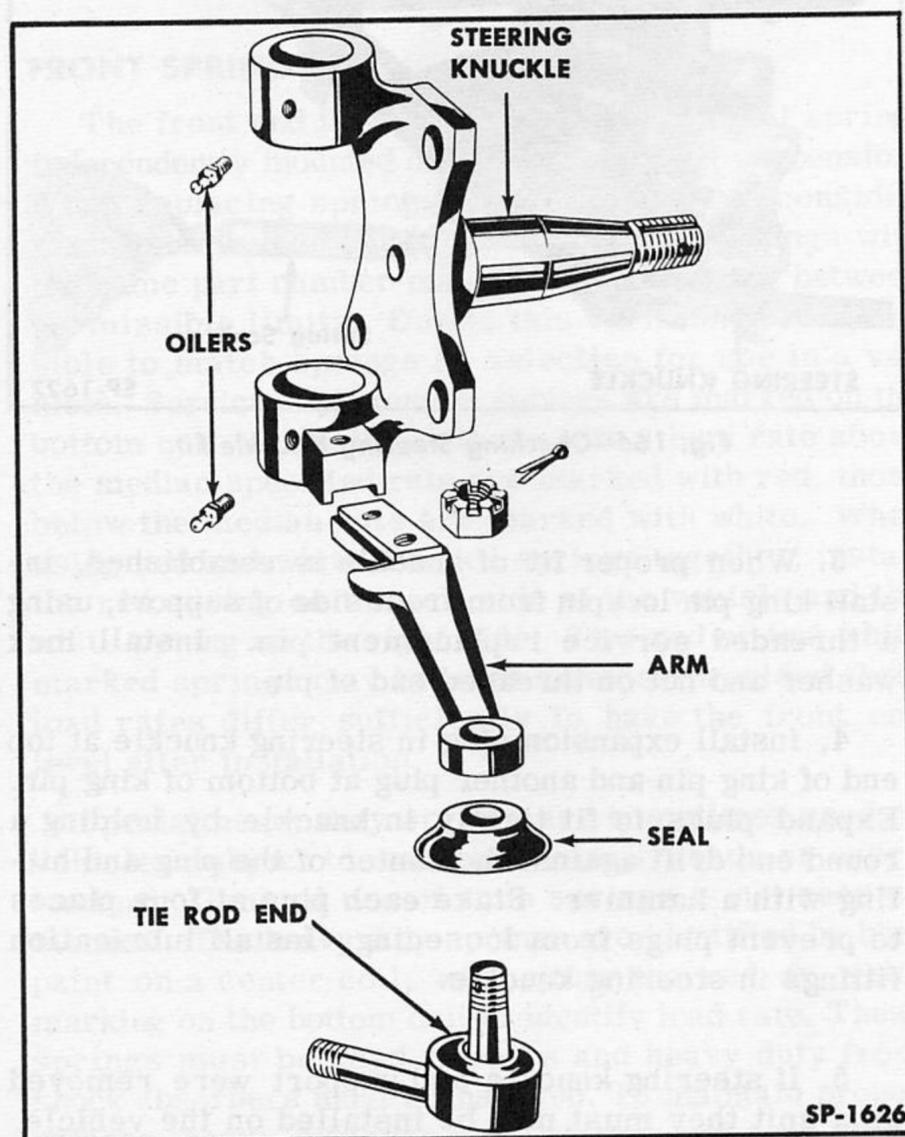

Fig. 163—Steering Knuckle Arm Installation
4. Disconnect tie rod end from steering knuckle arm by removing cotter pin and nut. (Fig. 163).
The steering arms connect the steering linkage (tie rod end) to the steering knuckle as shown in Fig. 163. Inspect arms carefully after removal and replace them if they are bent or twisted as this will affect front end alignment and steering. When installing arms to steering knuckle, always use correct size bolts and tighten to 35-40 foot-pounds torque.